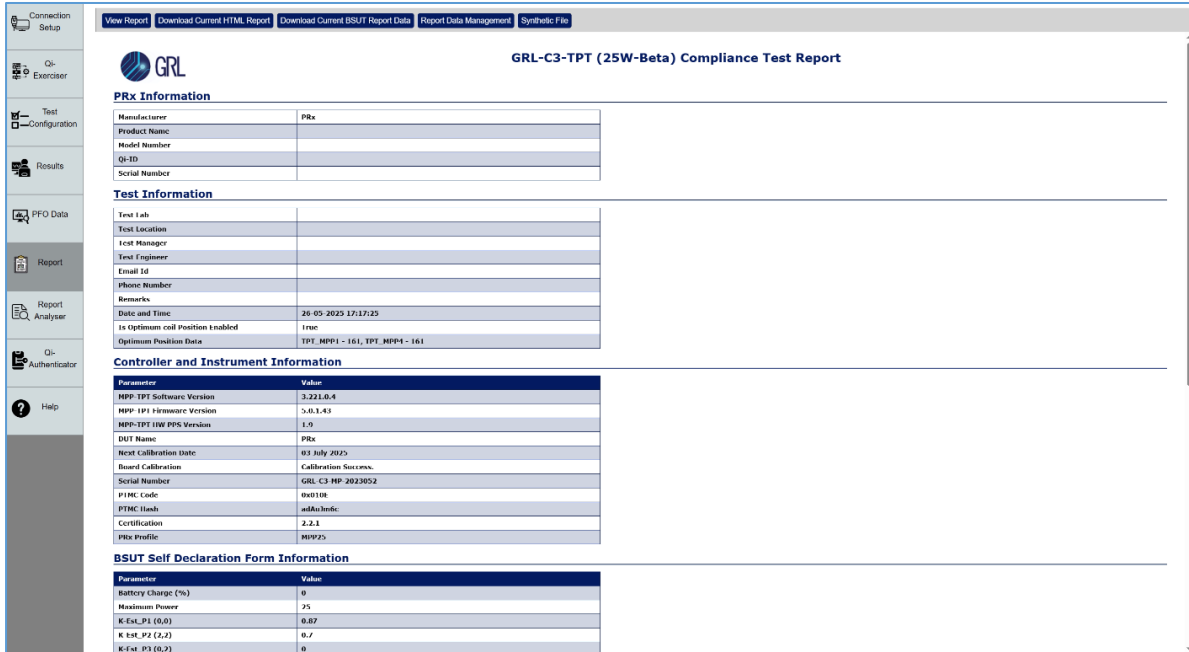

FIGURE 2.30: TEST REPORT FOR (0,0) POSITION TEST CASES
11. The test reports will be updated in the “Report” tab (as shown in Figure 2.30 below) and can be downloaded offline.